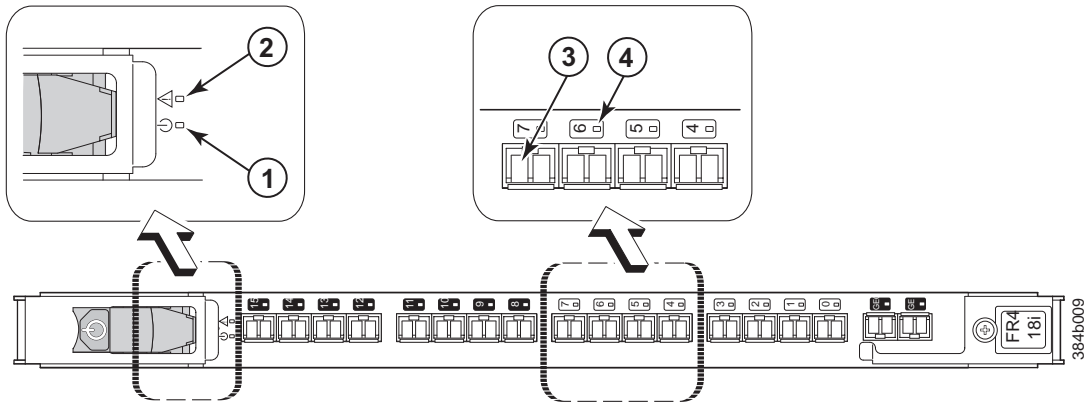

Figure 22. FR4-18i routing blade
- Figure 22 on page 48 illustrates the FR4-18i routing blade